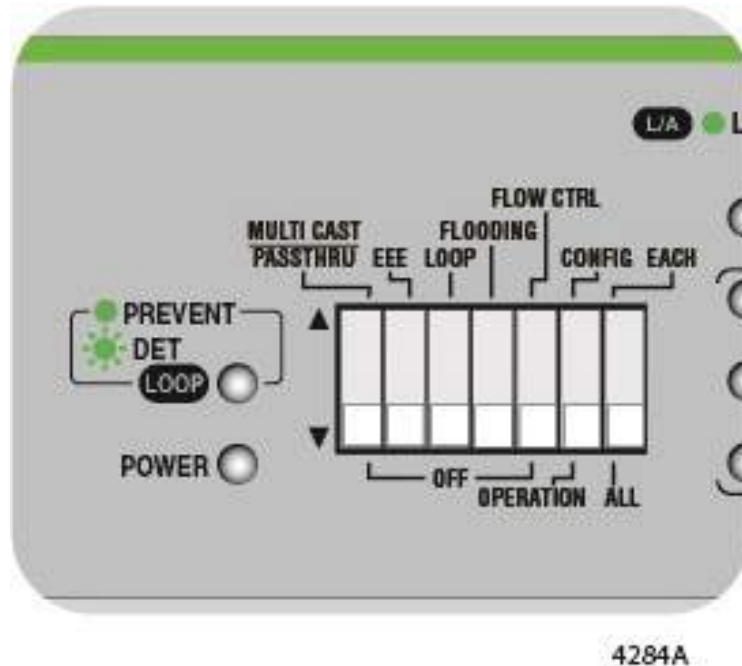

Figure 44. DIP Switch Settings for Disabling Multicast Frame Pass-Through
1. Set DIP switch # 1 to the DOWN position to disable this feature. See Figure 44.